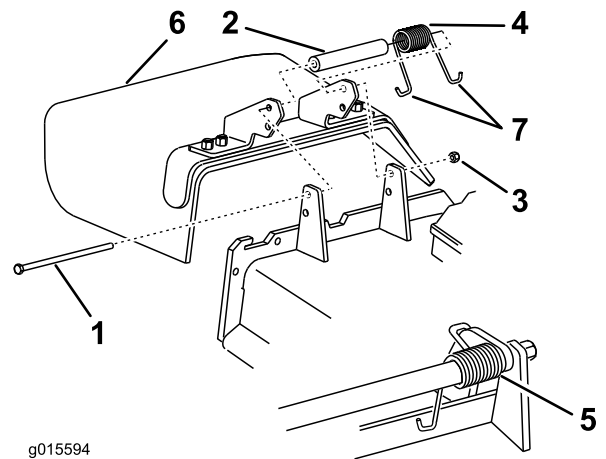

Figure 97
1. Remove the locknut, bolt, spring and spacer holding the deflector to the pivot brackets (Figure 97). Remove the damaged or worn grass deflector.
Note: Make sure one **J** end of the spring is installed behind the deck edge before installing the bolt as shown in Figure 97.
3. Install the bolt and nut. Place one **J** hook end of the spring around the grass deflector (Figure 97).